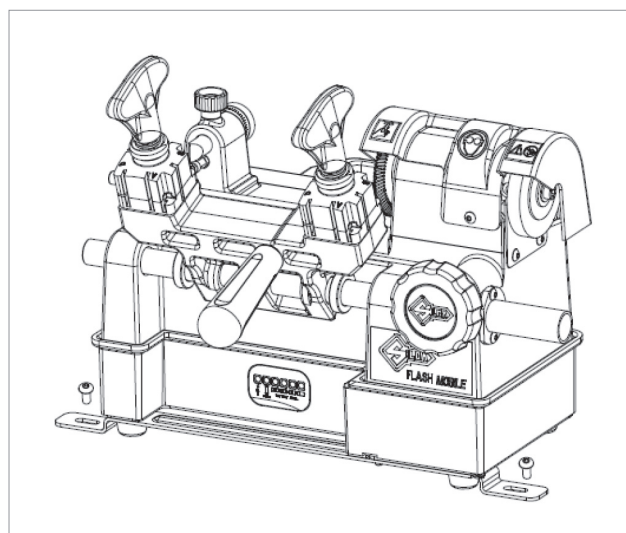

Fig. 16
- 5) Return the machine to its upright position and fix it on the work top (Fig. 16).